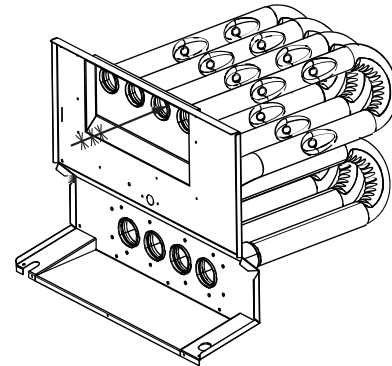

Fig. 45 – Cleaning Heat Exchanger Cell
- (2.) Insert brush end of cable into the outlet opening of cell and slowly rotate with drill. **DO NOT** force cable. Gradually insert cable into upper pass of cell, see Fig. 45.